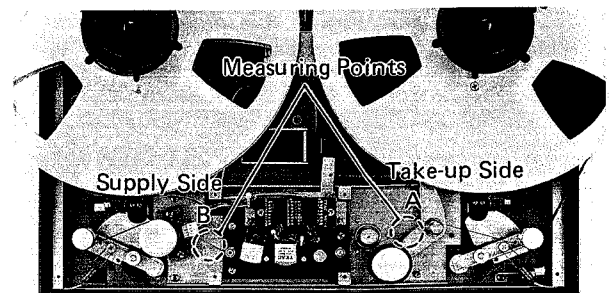
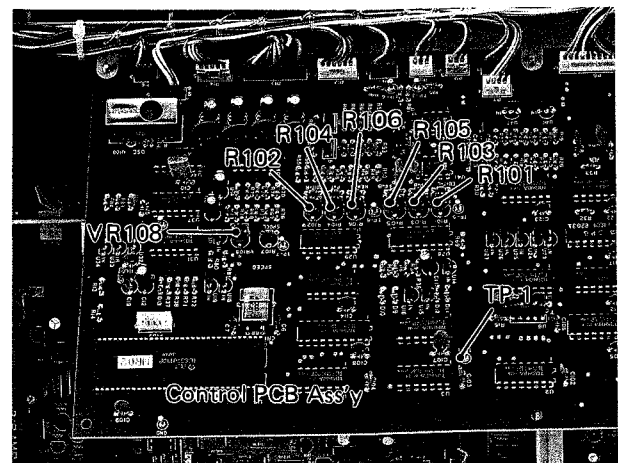

FIG. 16. TAPE TENSION MEASUREMENT POINTS
FIG. 17. TAPE TENSION ADJUSTMENT RESISTORS
3. Using a tension analyzer or tentelometer; measure take-up tension at test point A and back tension at test point B (Fig. 16). Both readings should be 60 ± 5 g. If not, adjust R102 (for take-up tension) and/or R101 (for back tension). Refer to Fig. 17 for locations of adjustment resistors.
3. While the tape is rolling in reproduce mode, take a reading from a tension analyzer or tentelometer at test points A (take-up tension) and B (back tension). Both readings should be 75 ± 5 g. If either or both readings are not within the limits, adjust R104 (for take-up tension) and/or R103 (for back tension). Refer to Fig. 17 for locations of adjustment resistors.
2. Run the tape in F. FWD and hold the right, take-up reel with hand to take a reading from the tension analyzer or tentelometre at B shown in Fig. 16. Similarly, check REW back tension at A (holding the left, take-up reel). Specifications are 40 ± 5 g both in F.FWD and REW. If necessary adjust the following:
1. Connect an oscilloscope between TP-1 on the Control PCB (Fig. 17) and GND.